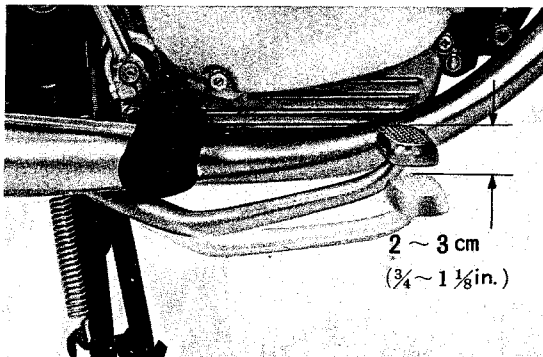

Fig. 21 Brake pedal play
Check the brake free play at the end of the brake pedal. The play should be 2-3 cm (3/4-1.1/8 in.). (Fig. 21) If it is not within this range, adjust it in accordance with the following procedure.
1) Turn the adjuster nut clockwise to reduce the amount of play in the brake pedal. (Fig. 21)